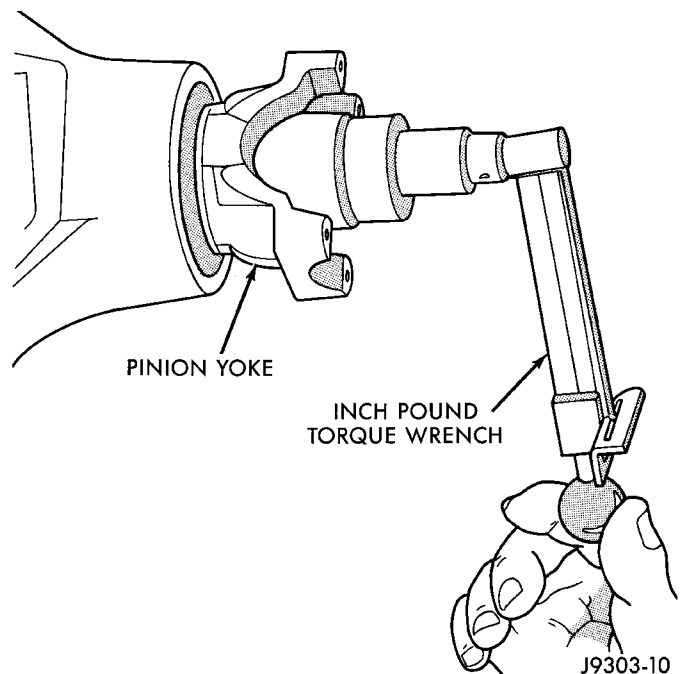

Fig. 50 Check Pinion Gear Rotation Torque
(11) Slowly tighten the nut in 6.8 N·m (5 ft. lbs.) increments until the rotating torque is achieved. Measure the rotating torque frequently to avoid over crushing the collapsible spacer (Fig. 50).
(12) Check bearing rotating torque with an inch pound torque wrench (Fig. 50). The torque necessary to rotate the pinion gear should be: